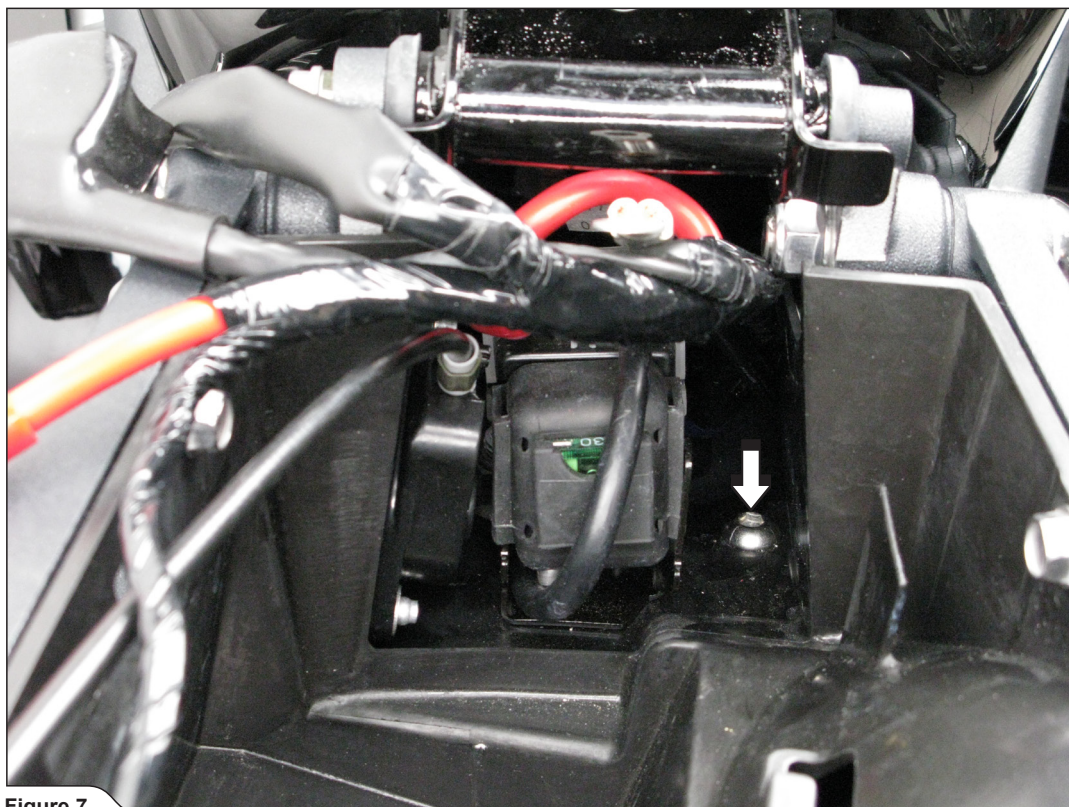

Figure 7
8. Remove the battery and unscrew marked heat shield bolts (Figure 7, 8).